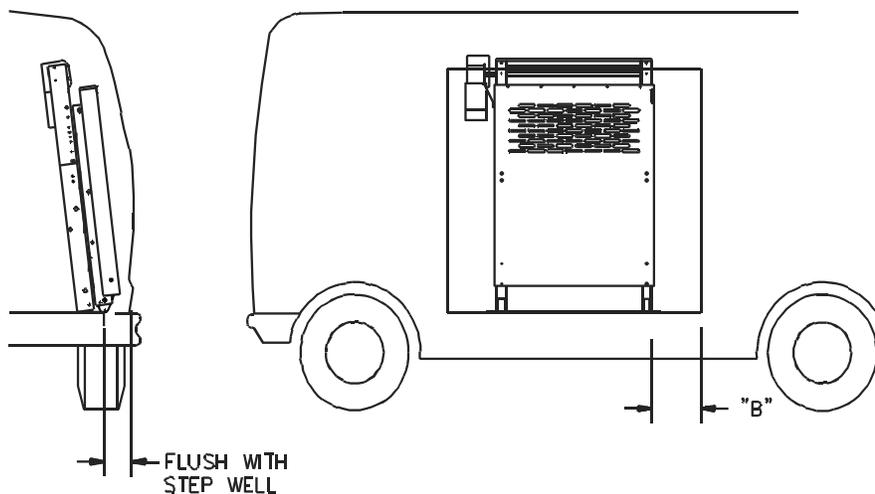

FIGURE 2-11: SIDE DOOR INSTALLATION CLEARANCES
- a. Position lift into van according to **Figures 2-11, 2-12** and **Table 2-2**: